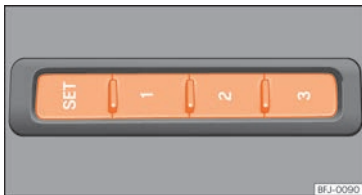

Fig. 146 On the outer side of the driver seat: memory buttons.
» **Fig. 146.**
- Press and hold the  button **»» Fig. 146.**